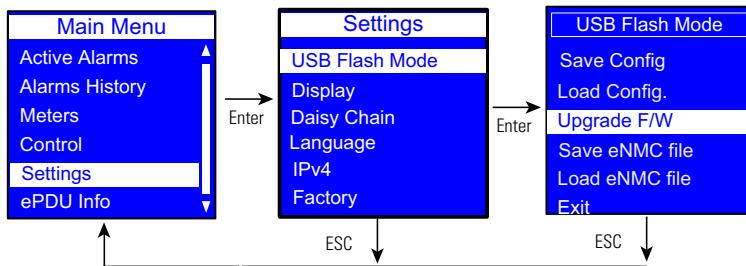

Figure 72. Example Select Upgrade Firmware Display
8. Select Upgrade F/W and click **OK** to confirm the upgrade (see Figure 72). The eNMC module gets the file from the USB drive.